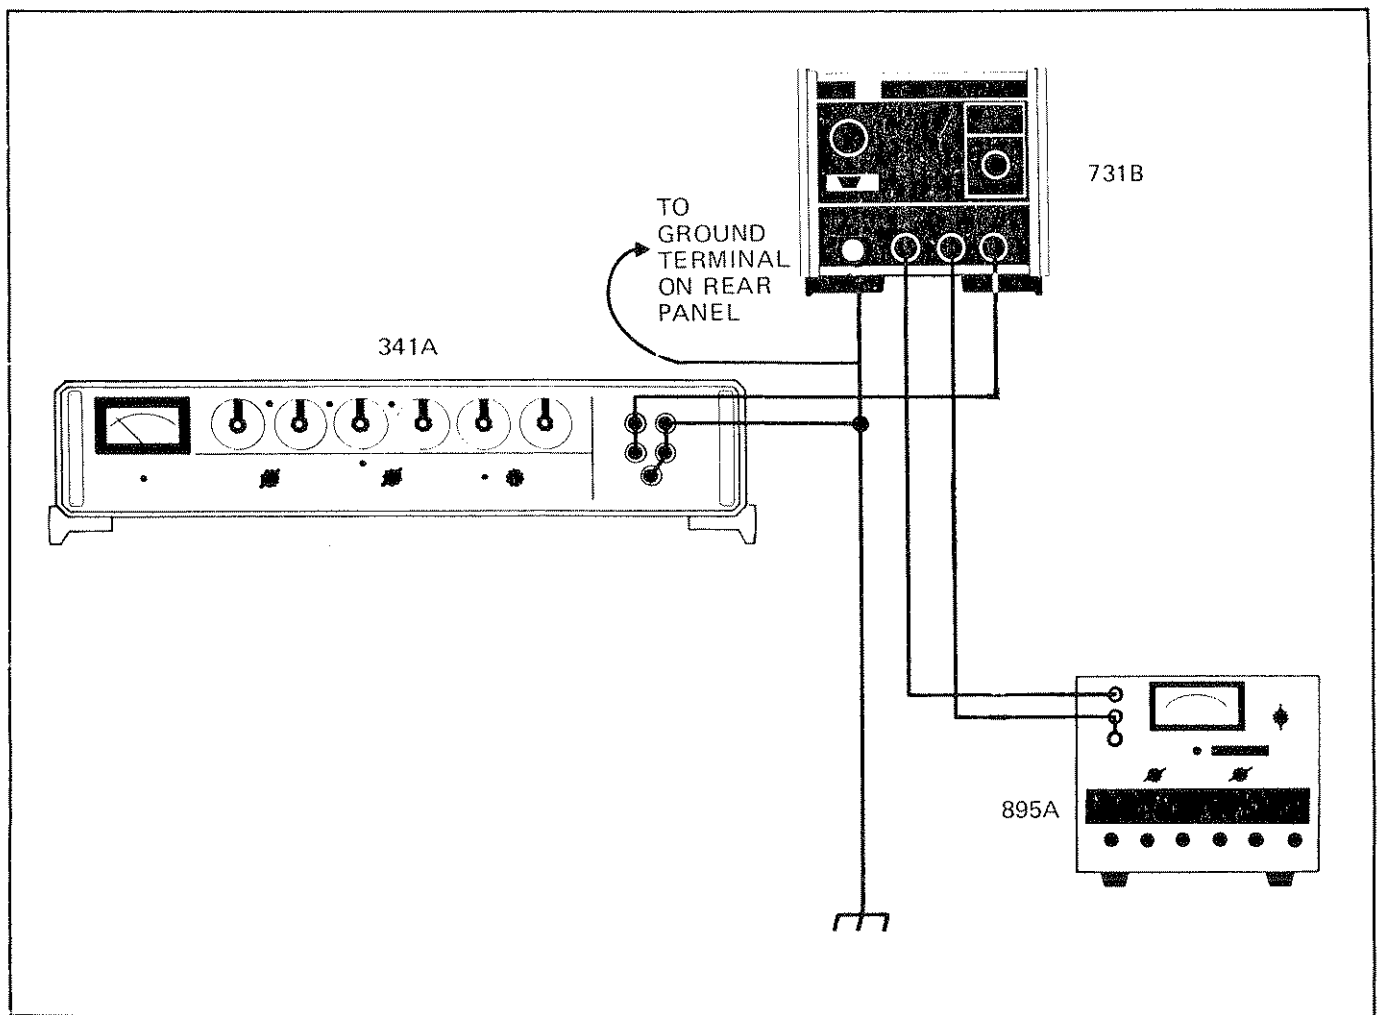

Figure 4-4. EQUIPMENT CONNECTIONS FOR COMMON-MODE REJECTION TEST.
- a. Connect equipment as shown in Figure 4-4.